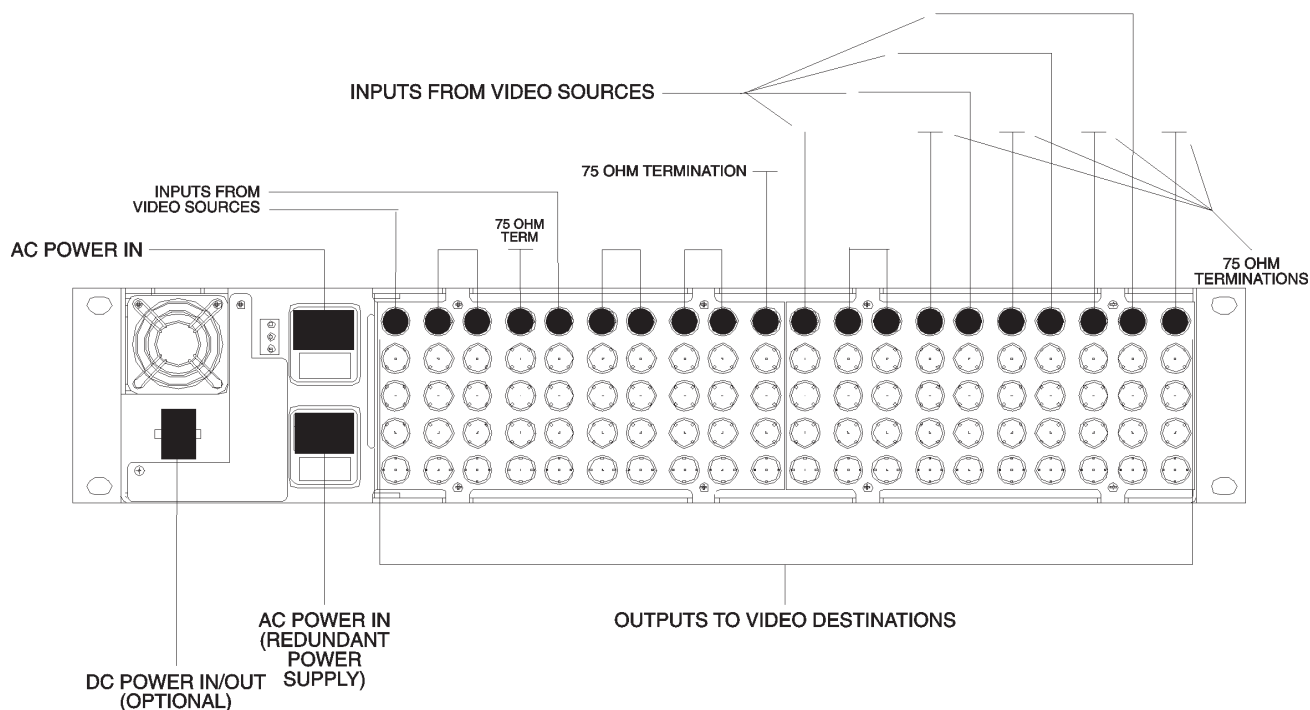

Figure 2-8 Sample System Connections
Once the DA3000 Video Mainframes are installed in the equipment racks, system connections can be made. Use the following guide and the sample system connections illustration, Figure 2-8, to insure that the DA3000 Video Mainframe system connections are hooked up correctly.
1. Connect the video sources to the video inputs. The video inputs are loop through connectors and can be daisy chained as shown in Figure 2-8. The end of each video input daisy chain must be terminated with a 75 ohm termination.